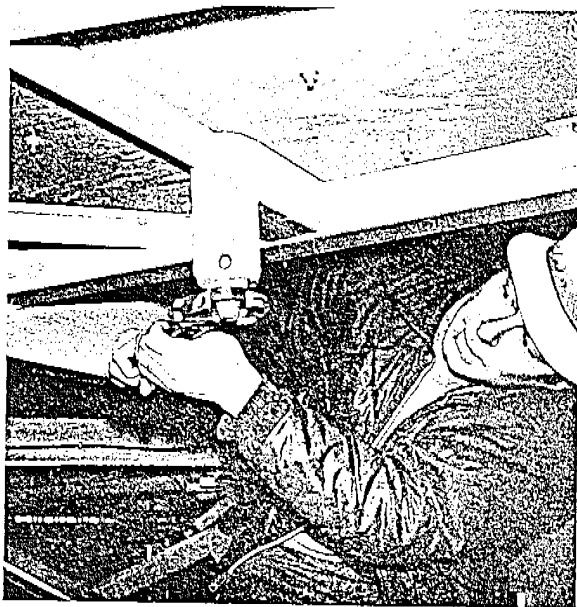

Fig. 36
- a. Working under the platform, remove the lock washers and nuts on the spindles of the removable cars. (Fig. 36) **NOTE:** Be sure to unlock the permanently fixed cars that are next to the removable cars before moving the cars to operation position. Remove the snap key from the locking pin on the permanently fixed car. Allow the pin to drop down out of locking position. Return the snap key to the hole at the end of the pin. (Refer to Drawing 539)
- d. **CAUTION:** Be sure to install the lock washers and nuts on the spindles under the platform and snap key them in place. (Refer to Fig. 36)